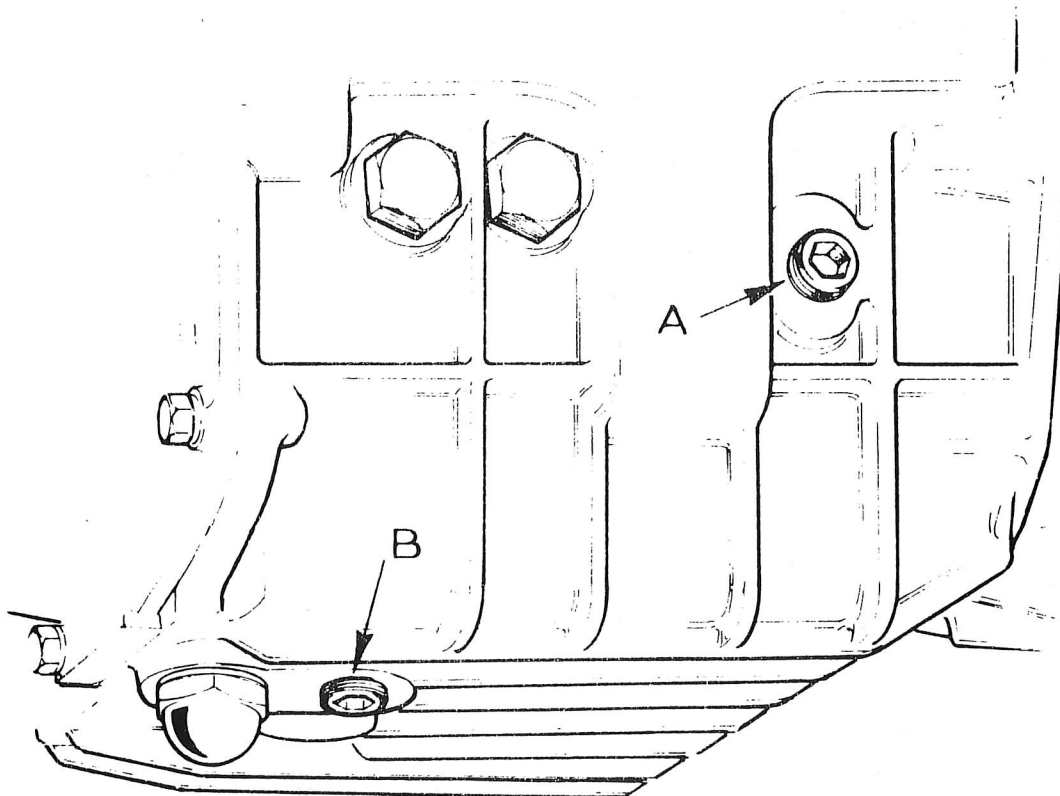

Fig.43. FILLER AND DRAIN PLUGS
12. Replace the drain plug (B, Fig. 43). Through the top of the gearbox, add three pints (1.7 litres; 3.6 US pints) of SAE 80 EP oil. Replace filler/level plug (A, Fig. 43).